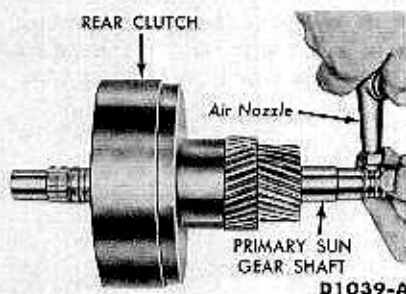

FIG. 12—Rear Clutch Piston Removal
4. Position an air hose and the primary sun gear shaft on the rear clutch as shown in Fig. 12. Place the hose nozzle in one of the holes in the shaft, place one finger over the other hole, and then force the clutch piston out of the clutch drum with air pressure.
6. Install the special nozzle shown in Fig. 12 on an air hose. Place the nozzle against the clutch apply hole in the front clutch housing, and force the piston out of the housing.